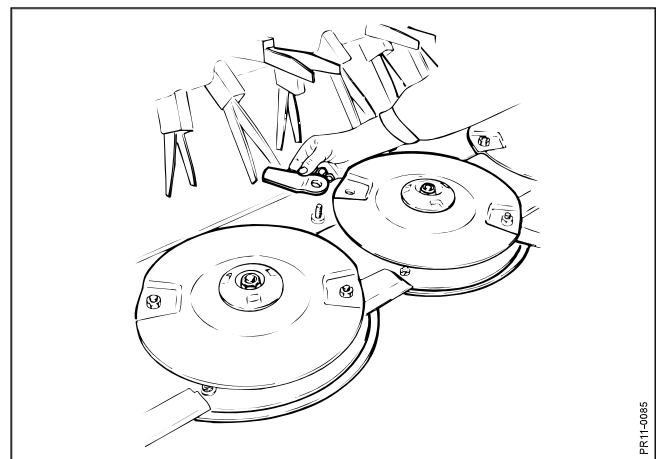

Fig. 5-10
- Fig. 5-10** To obtain a satisfactory harvesting it is important that blades and shearbars are intact and sharp. Replacement of blades is made by dismantling the blade bolt and pulling it out from beneath the disc. This is easily done when the blade is in the front position so that the bolt can fall out through the hole in the stone protector. Remove the old blade and mount the new one together with the blade bolt. The blades can be used on both sides by moving the blades from one disc to another with opposite direction of rotation.